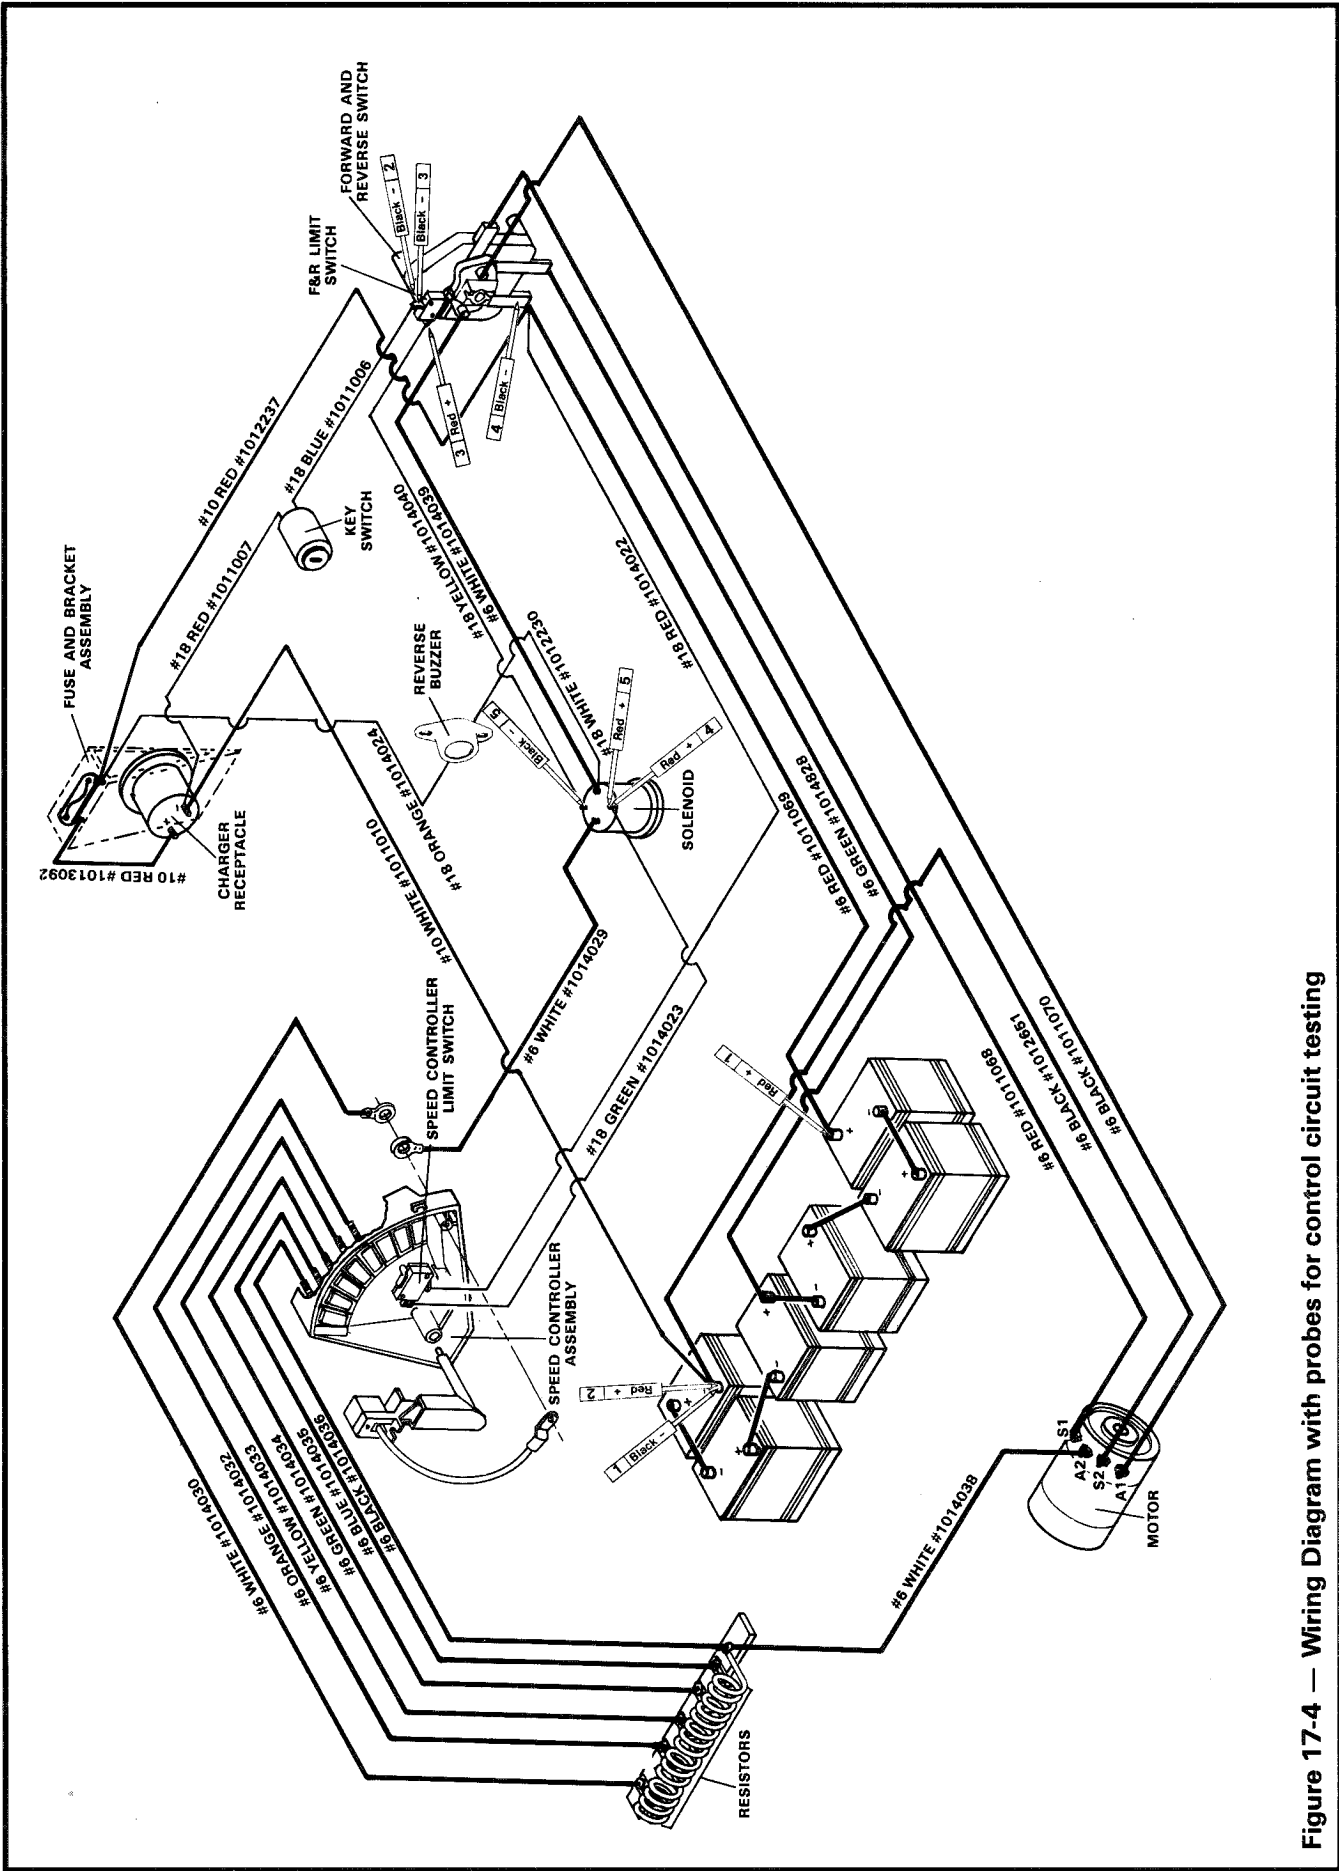
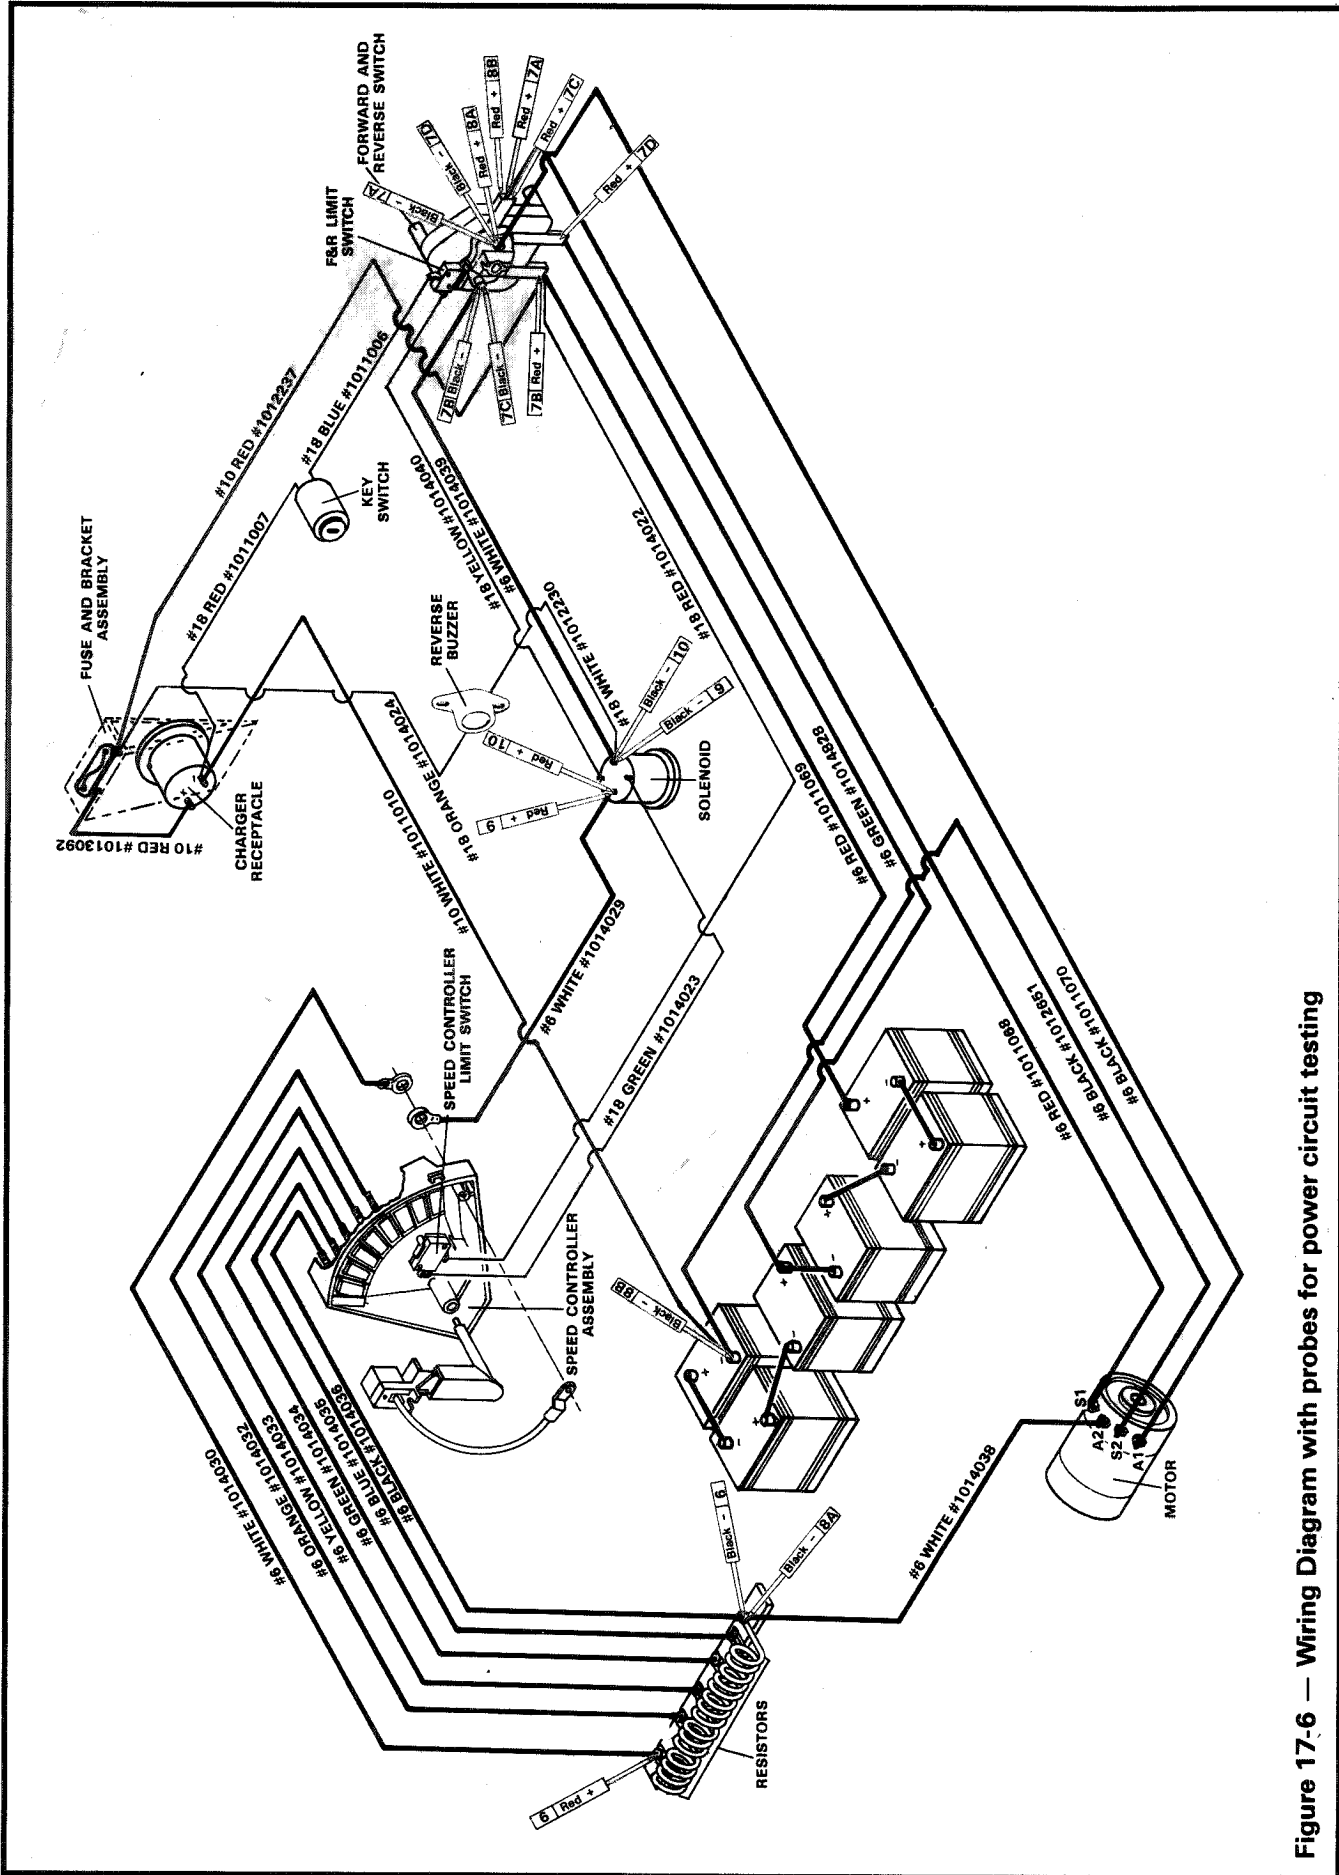

Figure 17-4 — Wiring Diagram with probes for control circuit testing
Figure 17-6 — Wiring Diagram with probes for power circuit testing
- NOTES: 1) Refer to **Figure 17-4** for testing the control circuit and **Figure 17-6** for testing the power circuit.
- 2) The red (+) probe symbol and the black (-) probe symbol as shown on the wiring diagrams (**Figure 17-4** and **Figure 17-6**) indicate points where the probes should be placed for each test. The number on the probe symbol indicates the test procedure number.
With VOM set at  $\Omega$ , place red (+) probe of meter or continuity tester on forward terminal lug of F&R switch and black (-) probe on upper terminal of F&R anti-arcing limit switch. (Figure 17-4). With key in the "OFF" position, reading should be no continuity. Insert key and turn to the "ON" position, reading should be continuity. If reading is incorrect, check wires and terminals, then replace switch. See key switch, page 17-13.
Set VOM at  $\Omega$ , place red (+) probe of meter or continuity tester on the common terminal of the limit switch and the black (-) probe on the (NO) normally open terminal (Figure 17-4). Reading should show continuity when lever is depressed and no continuity when lever is released. If not, check wires and terminals, then replace limit switch. See F&R Anti-Arcing Limit Switch, page 17-14.
#### POWER CIRCUIT (Figure 17-6)